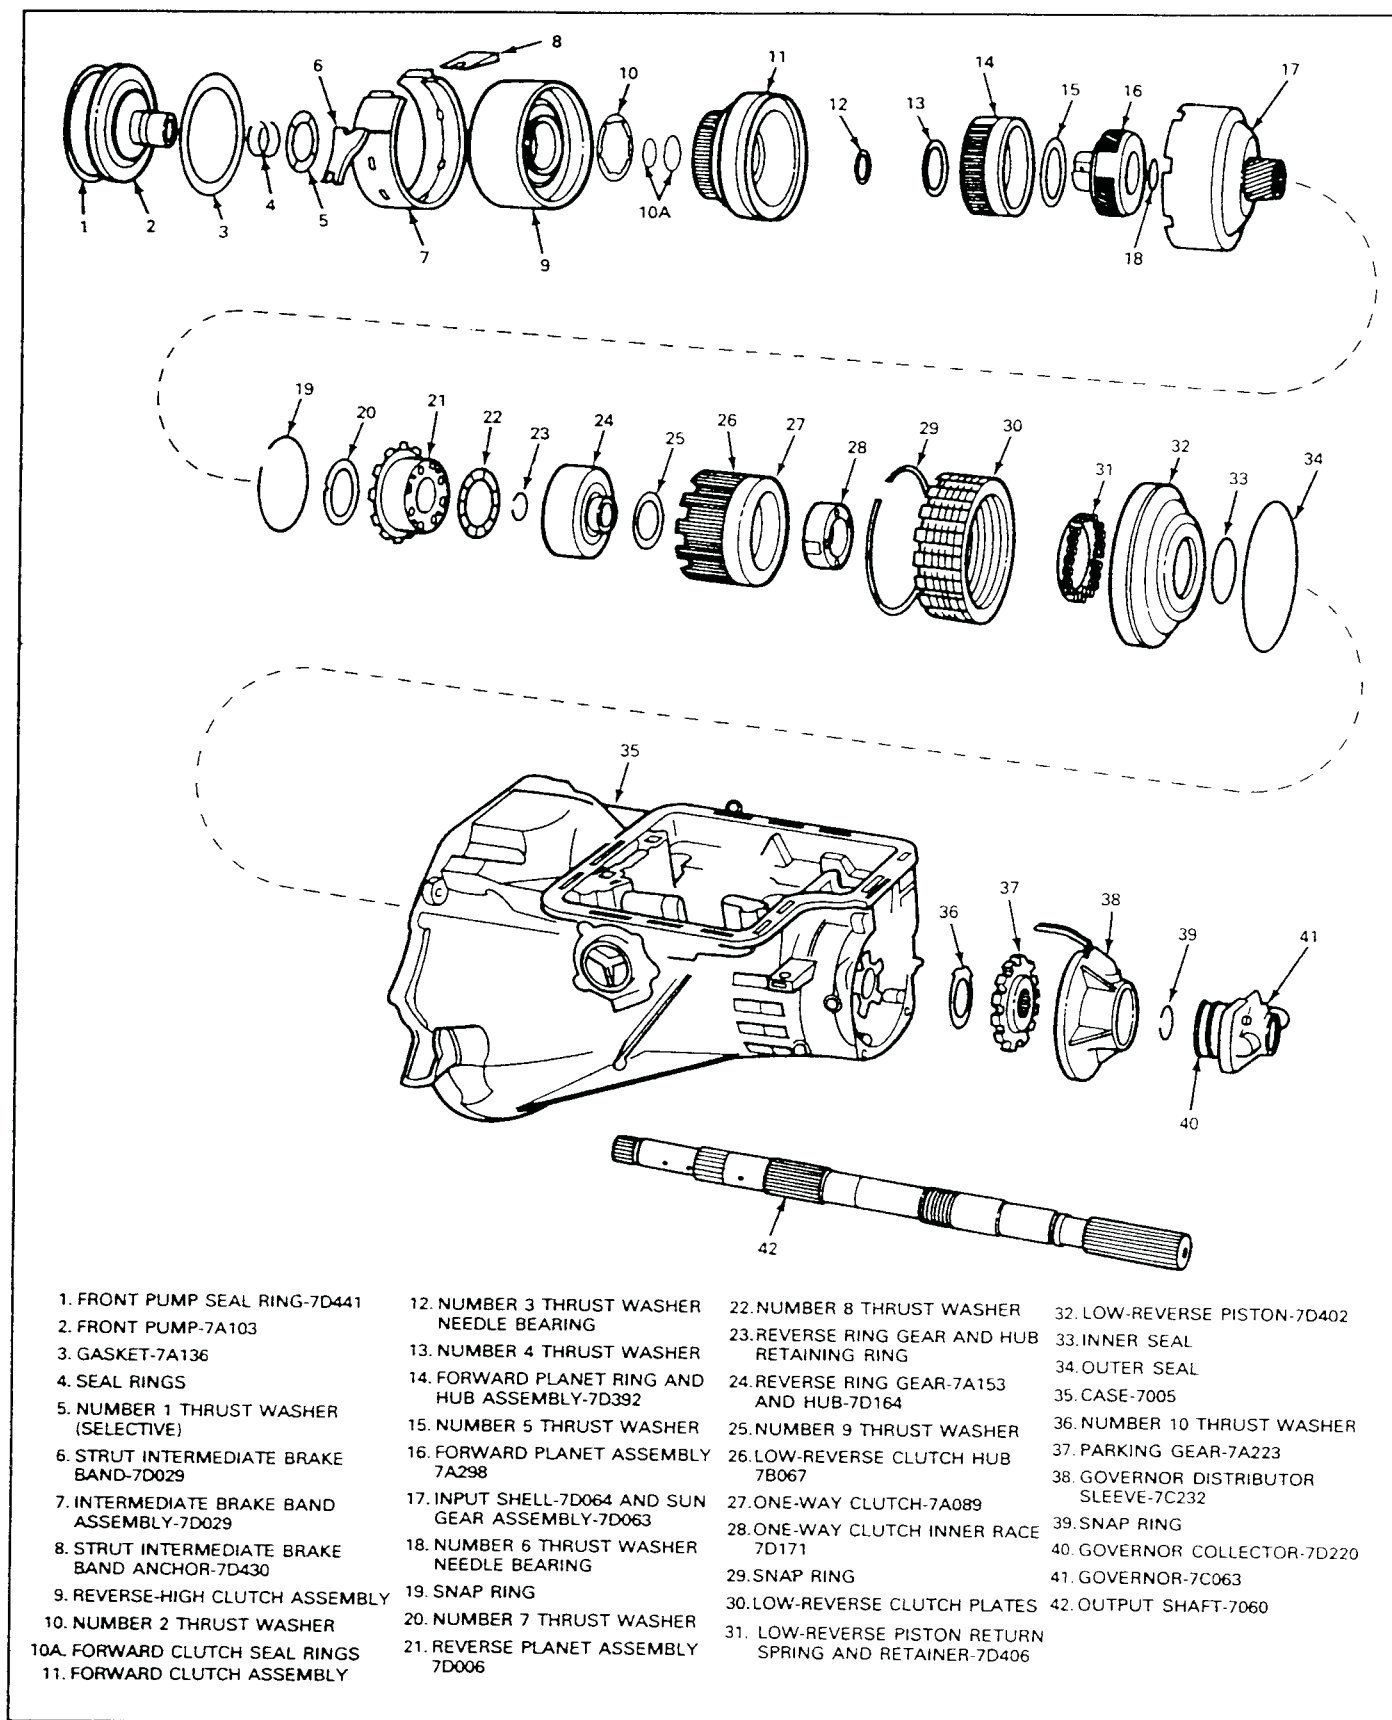
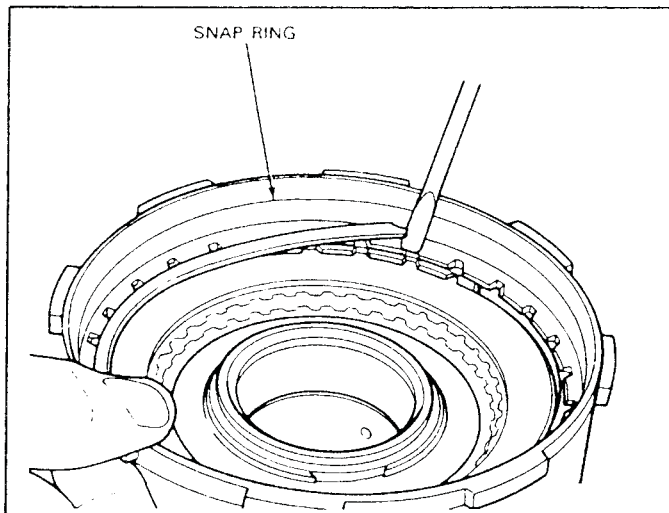

FIG. 38 Drive Train Disassembled—Typical
FIG. 39 Removing or Installing Reverse-High Clutch Pressure Plate Snap Ring
1. Separate the drive train as shown in Fig. 38. Remove the pressure plate snap ring as shown in Fig. 39.
1. Remove the inner and the outer seal from the low-reverse clutch piston (Fig. 38).